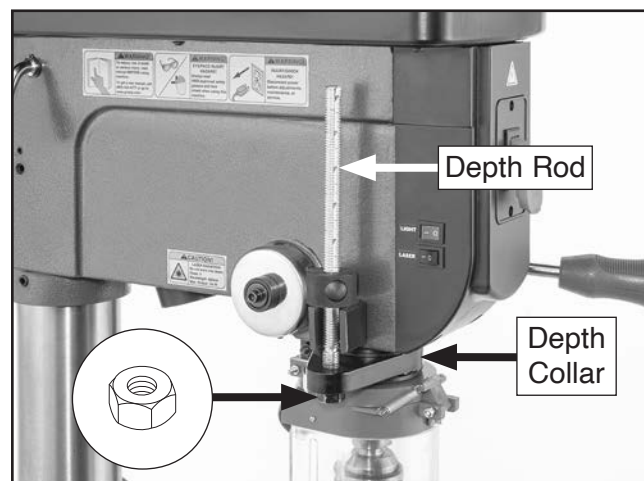

Figure 61. Depth stop calibration components.
3. Loosen hex nut shown in **Figure 61**.
4. Adjust depth rod up in depth collar a couple turns (see **Figure 61**).